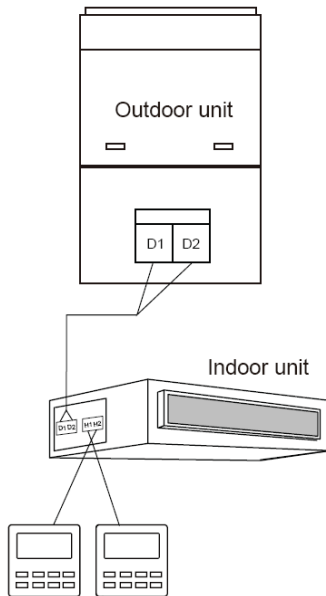

Fig. 3.4 Two wired controllers control one indoor unit
- (1) When one wired controller controls multiple indoor units simultaneously, the wired controller can connect to any one indoor unit, but the connected indoor unit must be the same series indoor unit. The total quantity of indoor unit controlled by wired controller can't exceed 16 sets, and the connected indoor unit must be within the same indoor unit's network. Wire controller must set quantity of group control indoor units. Please refer to 3.2.3 Parameters Setting.
- (2) When two wired controllers control one indoor unit, the addresses of those two wired controllers should be different. Please refer to 3.2.3 parameter setting.
- (3) When two wired controllers control multiple indoor units, wired controller can be connected to any one indoor unit, while the connected indoor unit should be the same series indoor unit. The addresses of those two wired controllers should be different. Please refer to 3.2.3 parameter setting. The total quantity of indoor unit controlled by wired controller can't be more than 16 sets and all connected indoor units must be within the same indoor unit network. Wire controller must set quantity of group control indoor units. Please refer to 3.2.3 Parameters Setting.
- (4) When one (or two) wired controller(s) control(s) multiple indoor units at the same time, the controlled indoor unit's setting should be the same.
- (5) Wiring of wired controller and indoor unit network must be according to one of the four wiring methods as shown in fig 3.3-3.6. As for the connection method shown in fig 3.4 and 3.6, there should be only one master wired controller (address is 01) and one slave wired controller (address 02). The quantity of wired controller can't exceed two.